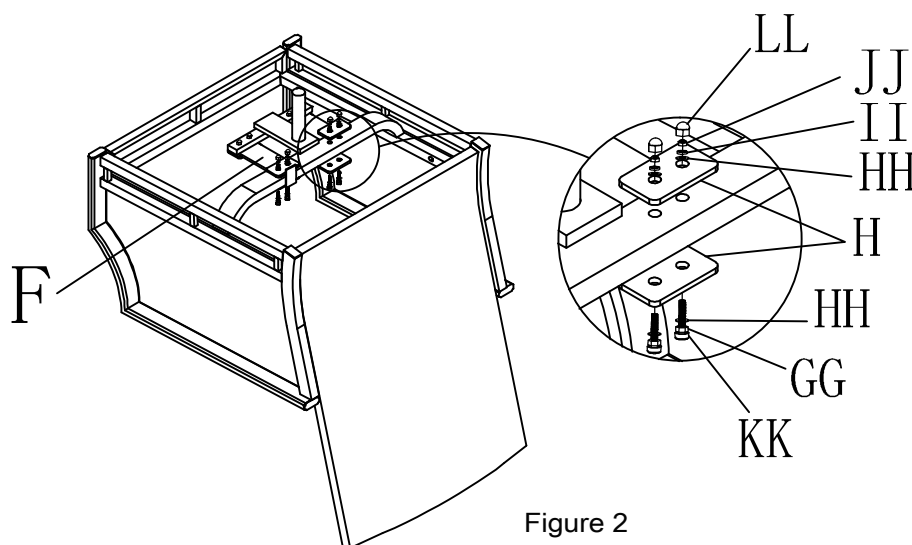

Figure 2
Step 2. Turn over the chair and attach the backrest (F) to the seat (C) with bolts (GG), k Uglyfg fHHZgdf]b[ 'k Ug\Yfg fHHZgdf]b[ 'k fYbW fMMZ"HJ[ \Yb' h\Y'Vc'g'Vc'a d'Y'Y'mi b] 'U' Vc'g'UfY' b'd'UW' H\Yb'Vc'j Yf h\Y'Vc'h\YUX (GG) k Jh caps (KK) and cover the nuts (JJ) with caps (LL). See Figure 2.